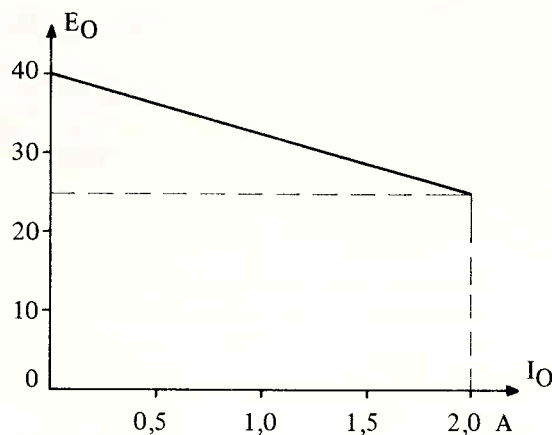

Fig. 5. Remote programming. Max. output voltage as a function of current drain at nominal mains voltage.
**Programming with Fixed Resistor.** When using a fixed resistor having an accuracy better than, say  $\pm 1 \%$ , an output voltage of better than  $\pm 2 \%$  accuracy is obtained. If, for instance, a voltage of  $12 \text{ V} \pm 2 \%$  is desired, a  $12 \text{ k}\Omega \pm 1 \%$  metal film resistor should be used. This may be wired directly in a 5-pole DIN plug, between pins 1 and 3. It is a good plan to mark the plug with "12 V" to avoid mistakes later on. The output voltage can be programmed all the way up to approx. 80 V, depending on current drain (Fig. 5).